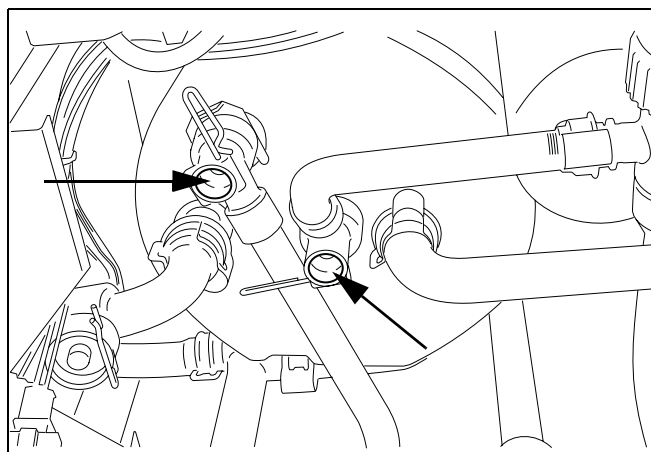

fig. 56 Flushing the hot water tank
- Pull out the standby- and hot water sensor and place the flushing connections in their place (see fig. 56).